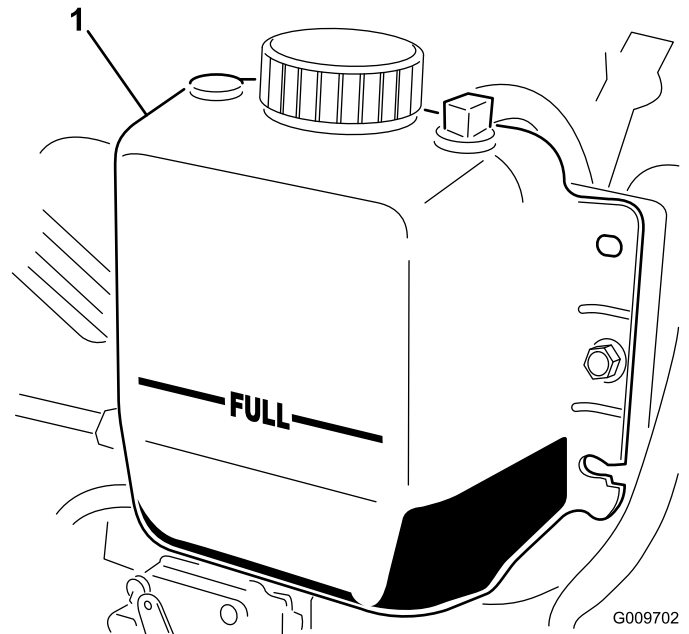

Figure 36
2. Check the coolant level in the radiator. The radiator should be filled to the top of the filler neck and the expansion tank filled to the FULL mark (Figure 36).